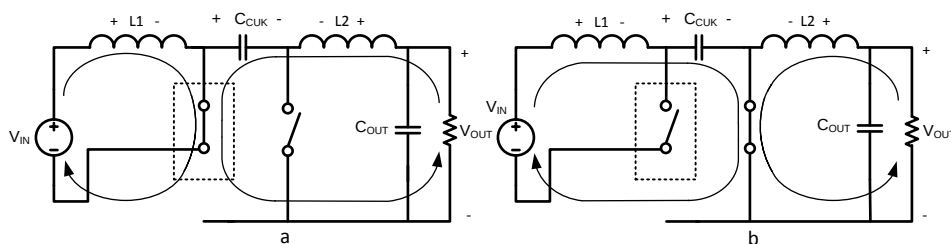
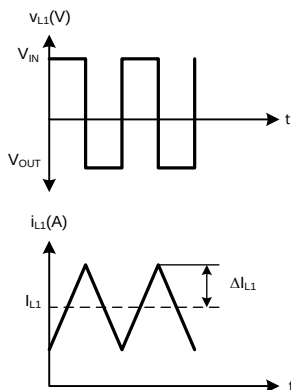
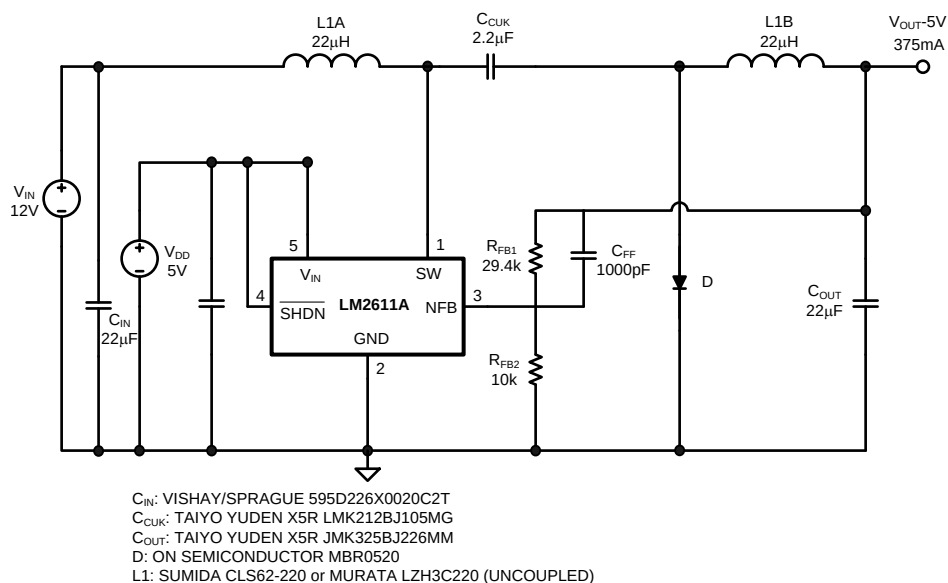

Figure 13. Operating Cycles of a Cuk Converter
Figure 14. Voltage and Current Waveforms in Inductor L1 of a Cuk Converter
Figure 15. Schematic of the Cuk Converter Using LM2611
The operating states of the Cuk converter are shown in Figure 13. During the first cycle, the transistor switch is closed and the diode is open. L1 is charged by the source and L2 is charged by C_{CUK} , while the output current is provided by L2. In the second cycle, L1 charges C_{CUK} and L2 discharges through the load. By applying the volt-second balance to either of the inductors, use Equation 1 to determine the relationship of V_{OUT} to the duty cycle (D).
Figure 14 and Figure 15 show the steady-state voltage and current waveforms for L1 and L2, respectively. Referring to Figure 13 (a), when the switch is closed, V_{IN} is applied across L1. In the next cycle, the switch opens and the diode becomes forward biased, and V_{OUT} is applied across L1 (the voltage across C_{CUK} is $V_{IN} - V_{OUT}$.)
The voltage and current waveforms of inductor L2 are shown in Figure 15. During the first cycle of operation, when the switch is closed, V_{IN} is applied across L2. When the switch opens, V_{OUT} is applied across L2.
Equation 2 to Equation 5 define the values given in Figure 14 and Figure 15:
The input current waveform to a Cuk converter is continuous and triangular, as shown in Figure 14. The input inductor insures that the input capacitor sees fairly low ripple currents. However, as the input inductor gets smaller, the input ripple goes up. The RMS current in the input capacitor is shown in Equation 7.
Like the input current, the output current is also continuous, triangular, and has low ripple (see I_{L2} in Figure 15). The output capacitor must be rated to handle its RMS current: